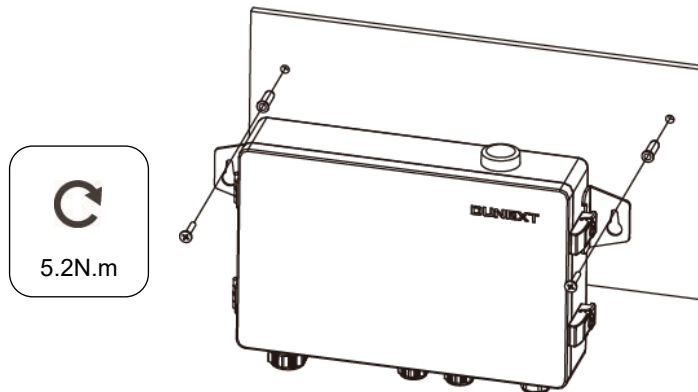

Figure 5-10 Wall mounting
5. Fix the wall mounting EMB-100 on the wall with expansion bolts in accessory bag. Refer to Figure 5-10.